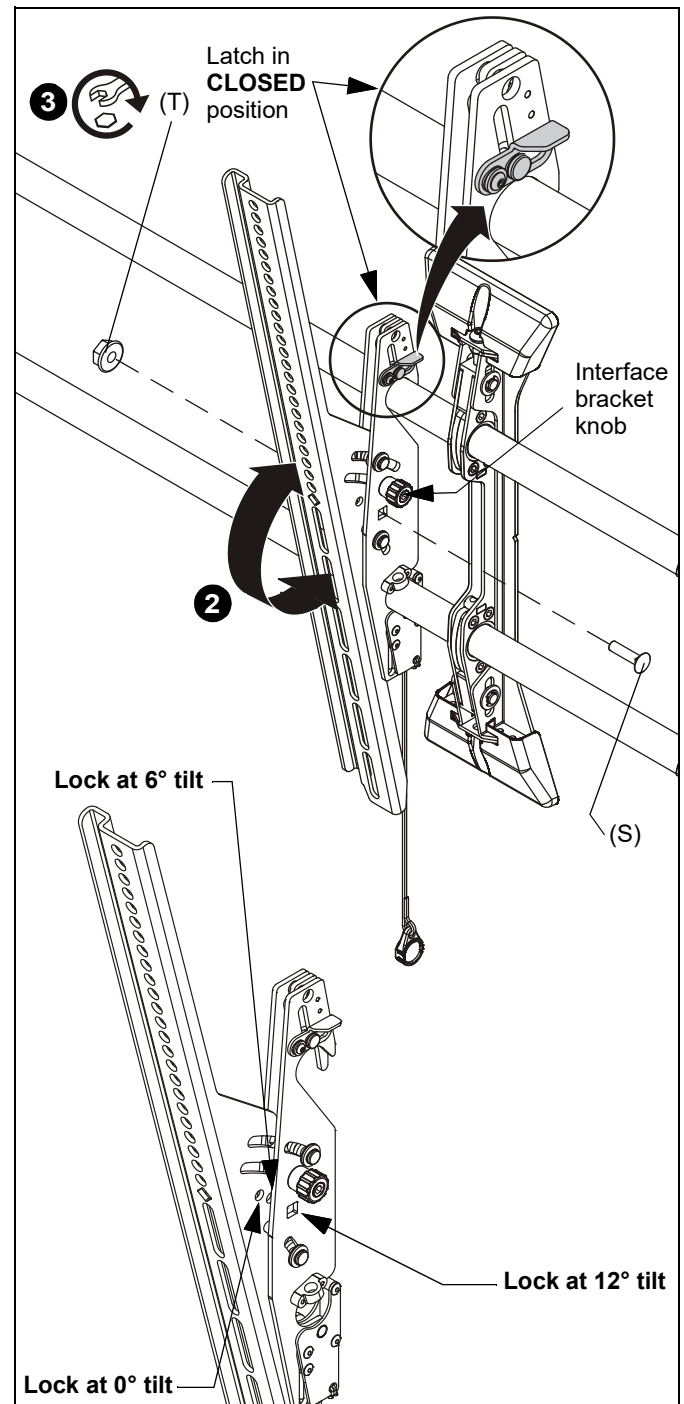

Figure 22
3. **(XTM1U only)** Move latch on top of interface brackets to CLOSED position. (See Figure 22)
2. Adjust tilt as required. (See Figure 22)
3. The tilt may be locked at 0° , 6° or 12° using one 1/4-20 x 1" round head carriage bolt (S) and one 1/4-20 hex nut (T) per interface bracket. (See Figure 22)